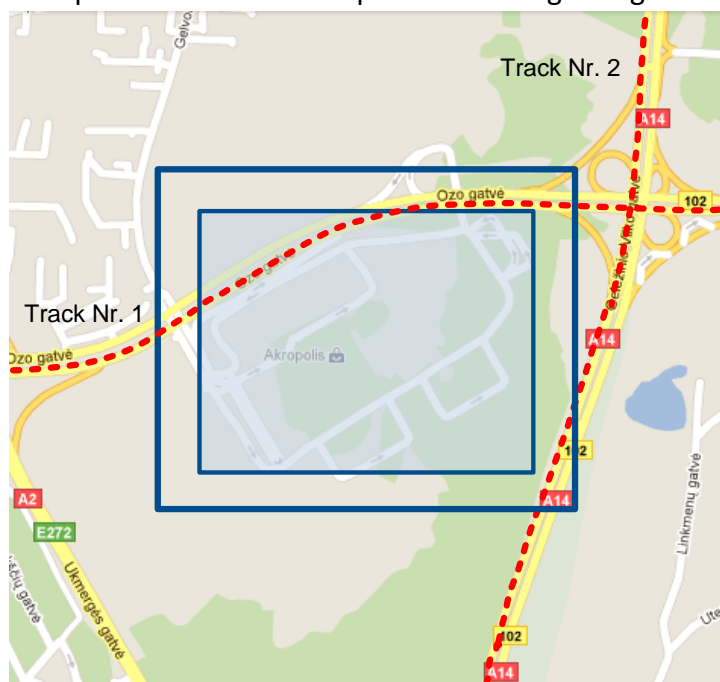

Figure 39 Geofence border
- Frame border – frame border is an additional border around Geofence zone. It is additional area around defined zone used to prevent false event recording when object stops on the border of the area and because of GPS errors some records are made inside area and some – outside. Event is generated only when both borders are crossed. See Figure 39 for details: track 1 is considered to enter the area while track 2 does not.